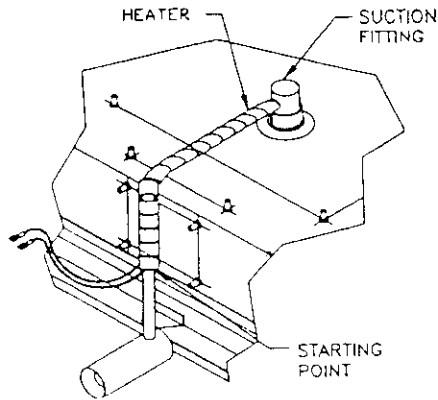

Figure 76
3. Remove foam insulation, foil tape, and old heater. (See Figure 76.)
4. Attach new heater to pan suction tube with a piece of foil tape at starting point. (See Figure 76.)
5. Wrap heater around pan suction tube toward suction fitting in a spiral pattern. (See Figure 76.)